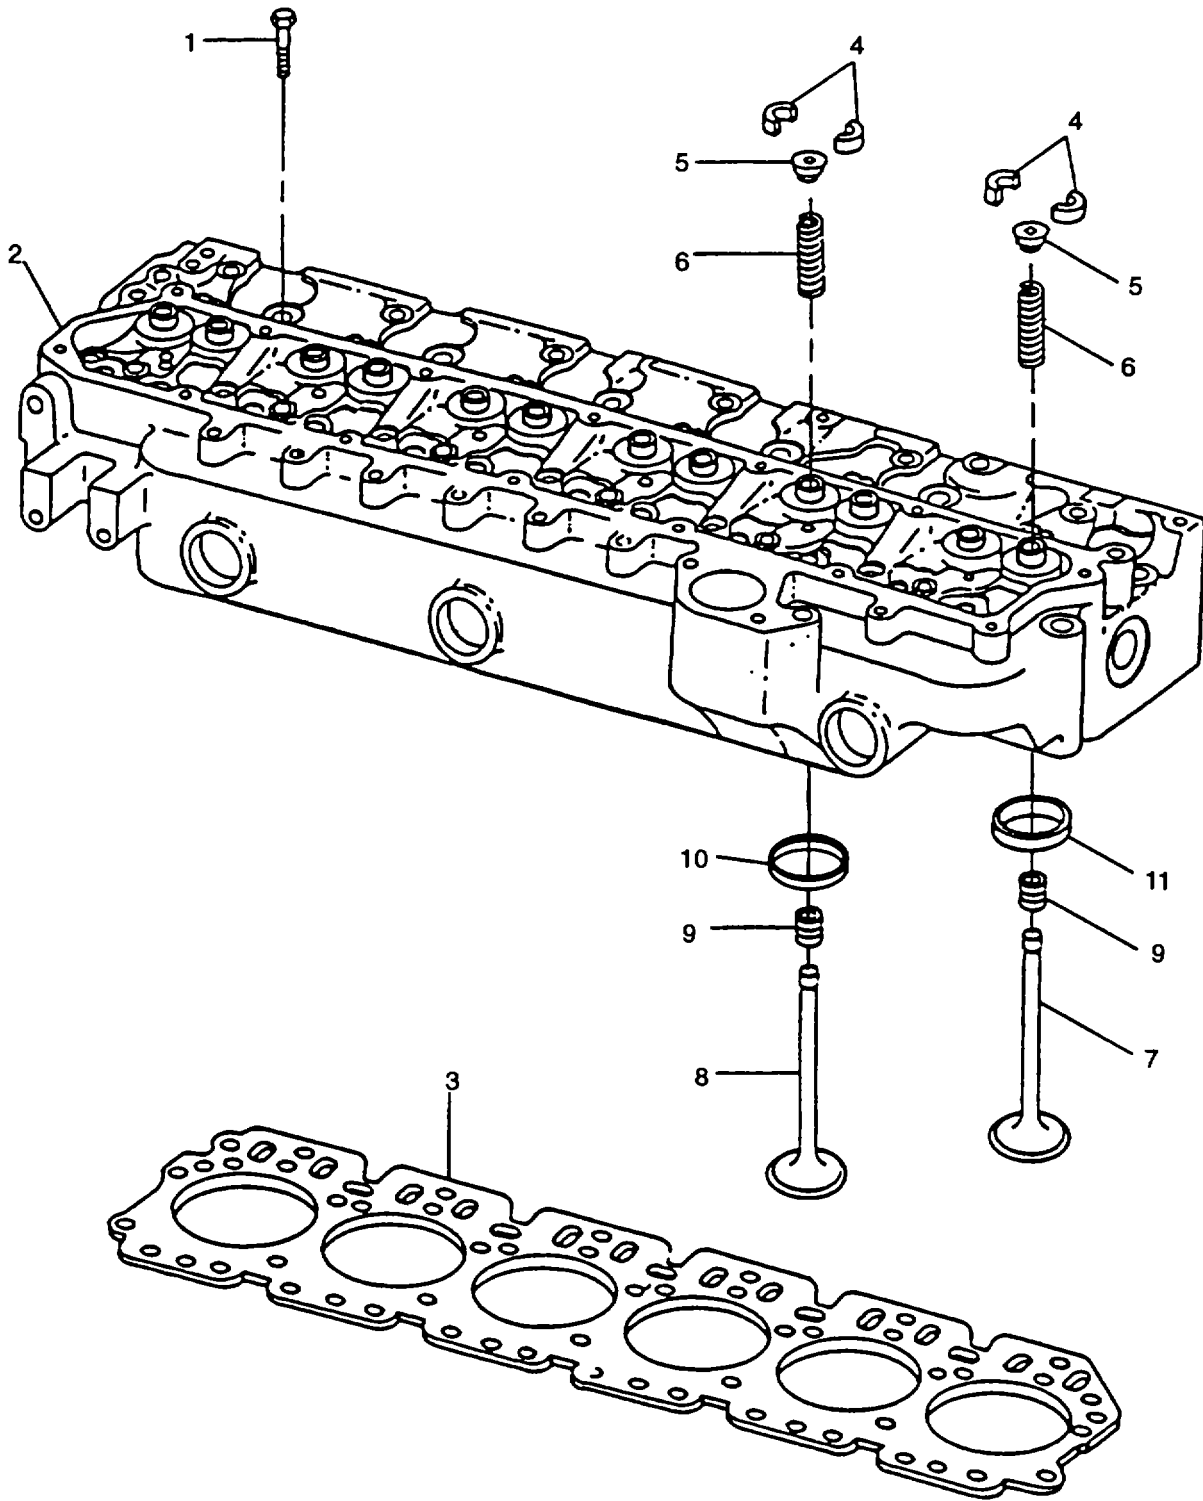
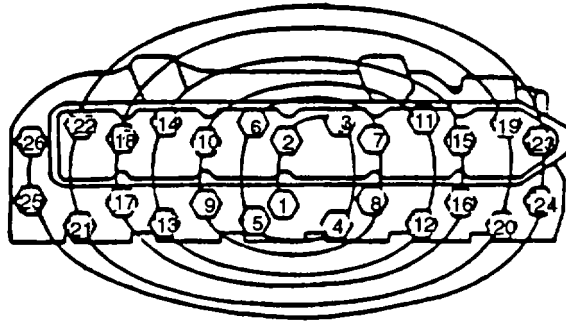

FIGURE 3-119. Cylinder Head Assembly
FIGURE 3-124. Cylinder Head Capscrew Tightening Sequence
- b. Place new cylinder head gasket (3, FIGURE 3-119) on cylinder block. Do not use sealant; install dry.
- c. Install two guide studs in cylinder block (for piloting cylinder head) at locating holes 16 and 17 shown in FIGURE 3-124.
- d. Using a lifting device, position cylinder head (2, FIGURE 3-119) over guide studs and lower into place on cylinder block.
- e. Dip entire capscrew (1) in clean engine lubricating oil (MIL-L-2104). Remove excess oil from screw.
- f. Remove guide studs. Install twenty-six cylinder head capscrews (1).
- g. Tighten capscrews (1) in sequence shown in FIGURE 3-124 to torque specified below, beginning with No. 1 capscrew. Complete each step on all capscrews before proceeding to next step.
- (1) Step 1 - Tighten all capscrews to 75 ft-lbs (100 Nm).
- (2) Step 2 - Tighten all capscrews to 110 ft-lbs (150 Nm).
- (3) Step 3 - Wait 5 minutes and verify 110 ft-lbs (150 Nm).